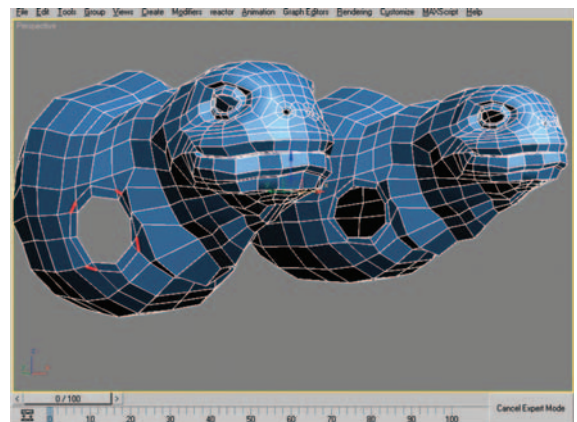

Figure 9.44 Edges before and after performing Collapse.
5. The chamfer we just performed created four Tri N -gons, so let's fix them. Select the four edges shown in Figure 9.44 (left) and use Collapse to eliminate the triangles (Figure 9.44, right).